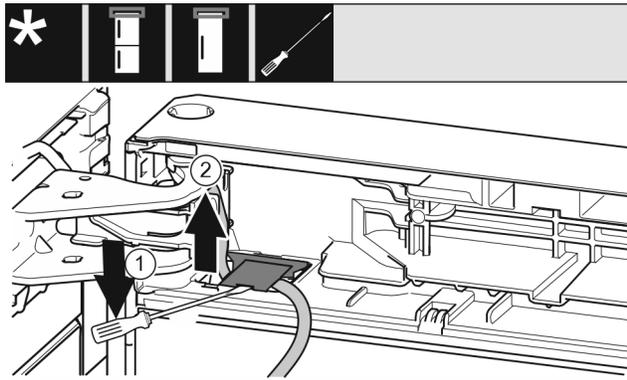

Fig. 19
- ▶ Lift up the cover with the slotted screwdriver and pull it out. *Fig. 19 (1)*
- ▶ Pull out the cable. *Fig. 19 (2)*